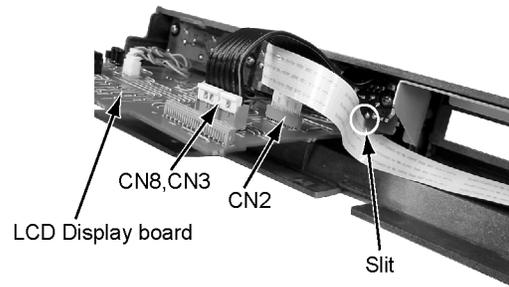

Fig.11
(See Figure 11, 12, and 13)
- **After the operation switch board is attached to its place, let a card wire through a slit on the operation switch board, and then insert it in CN2. (See Figure 11.)**